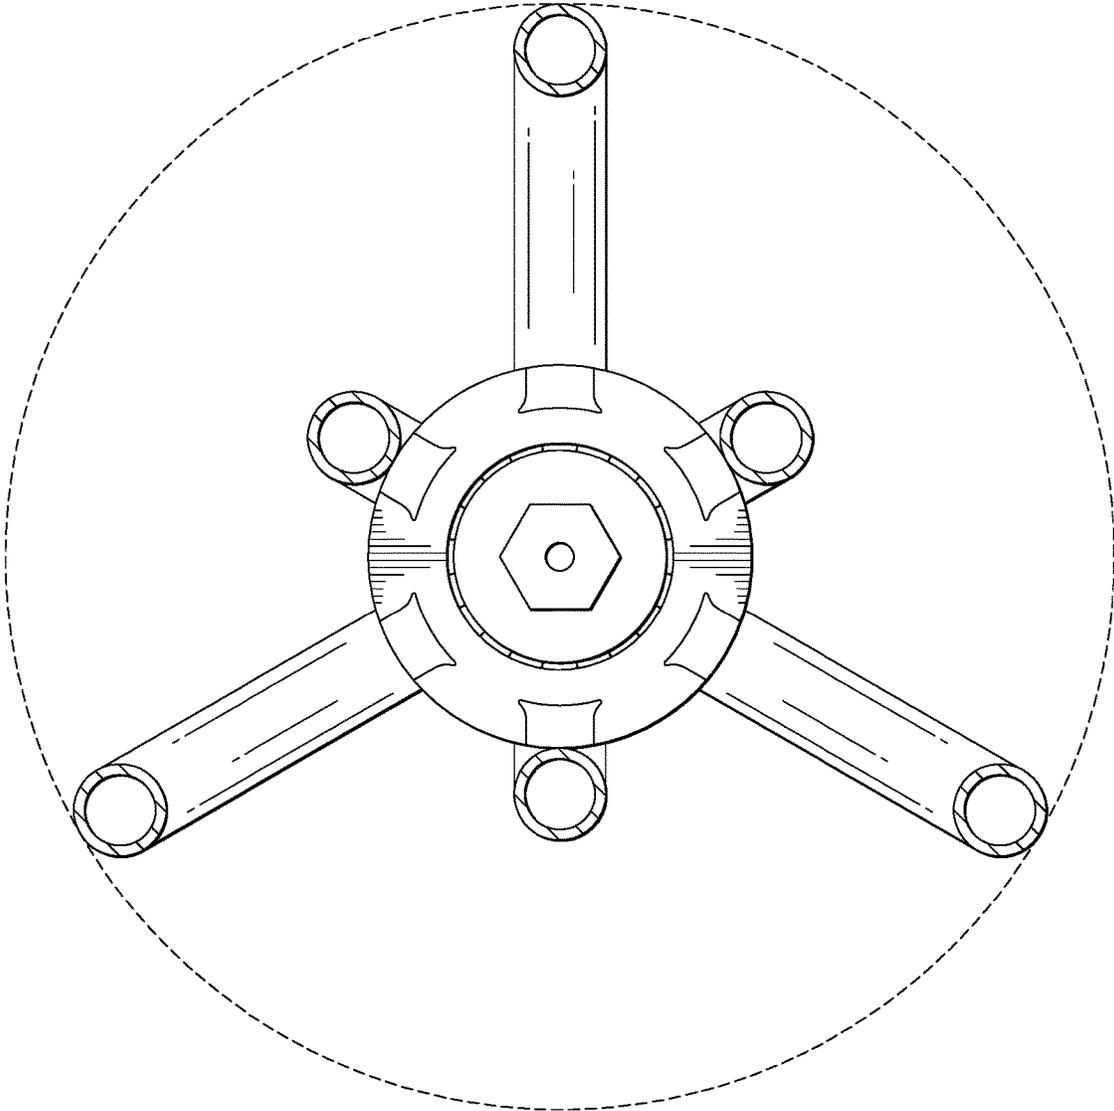

FIG. 8
**[0016]** FIG. 8 shows a cross-sectional view of the InfinityScrew;